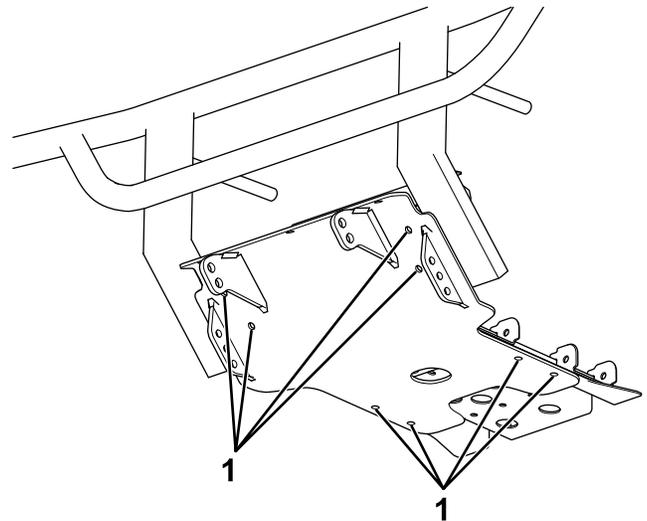

Figure 1
2. Using the plow skid plate as a guide, drill out the 8 holes on the vehicle bumper and frame to 7/16 inch (Figure 1).